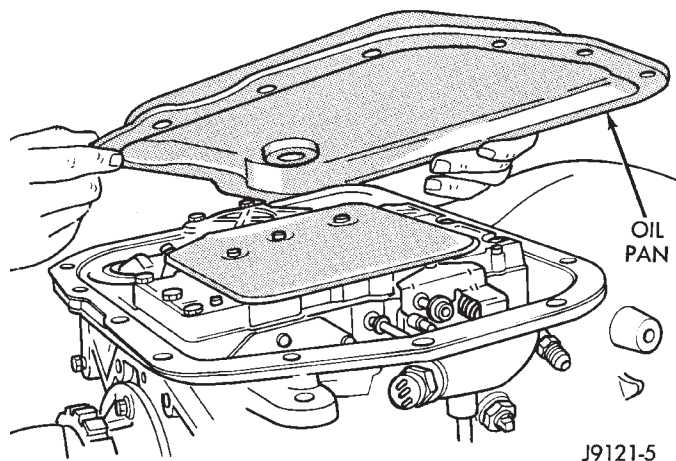
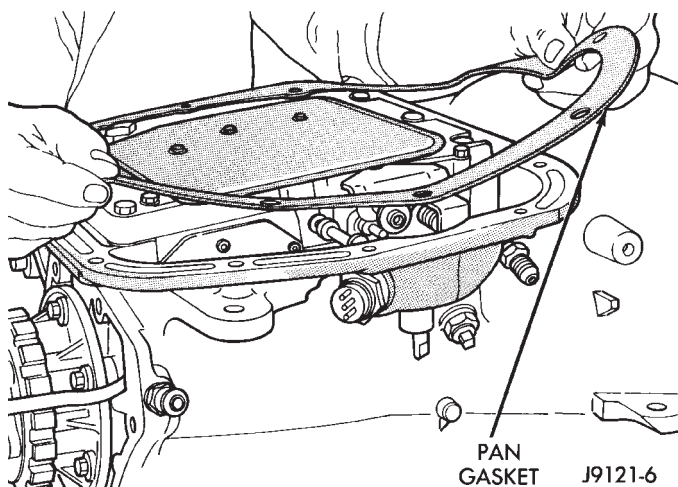
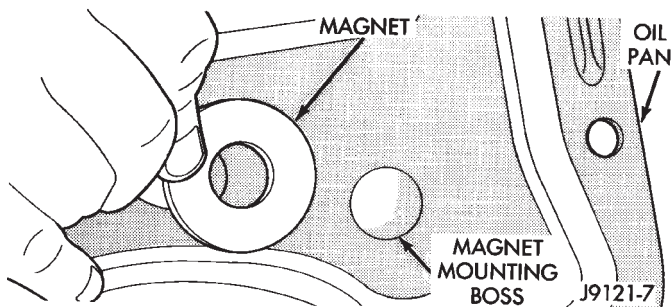

Fig. 9 Removing/Installing Oil Pan—46RH
Fig. 10 Removing/Installing Pan Gasket—46RH
Fig. 11 Oil Pan Magnet Location—46RH
(12) Remove oil pan bolts and remove pan (Fig. 9) and gasket (Fig. 10). Oil pan magnet can be removed or left in pan as needed (Fig. 11). Exercise care when removing pan to avoid distorting or bending pan flange.